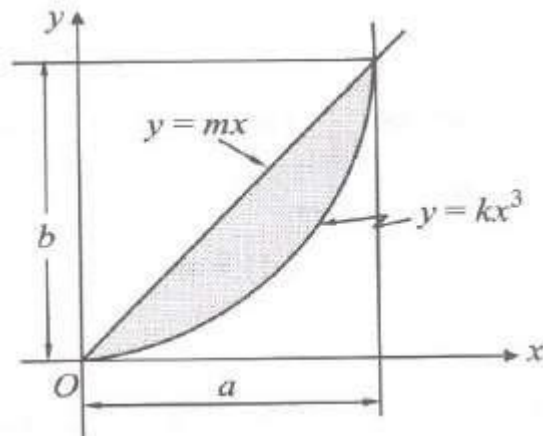

Figure 2.
- b) Find the center of gravity of the shaded area as shown in the Figure 2. [8M]